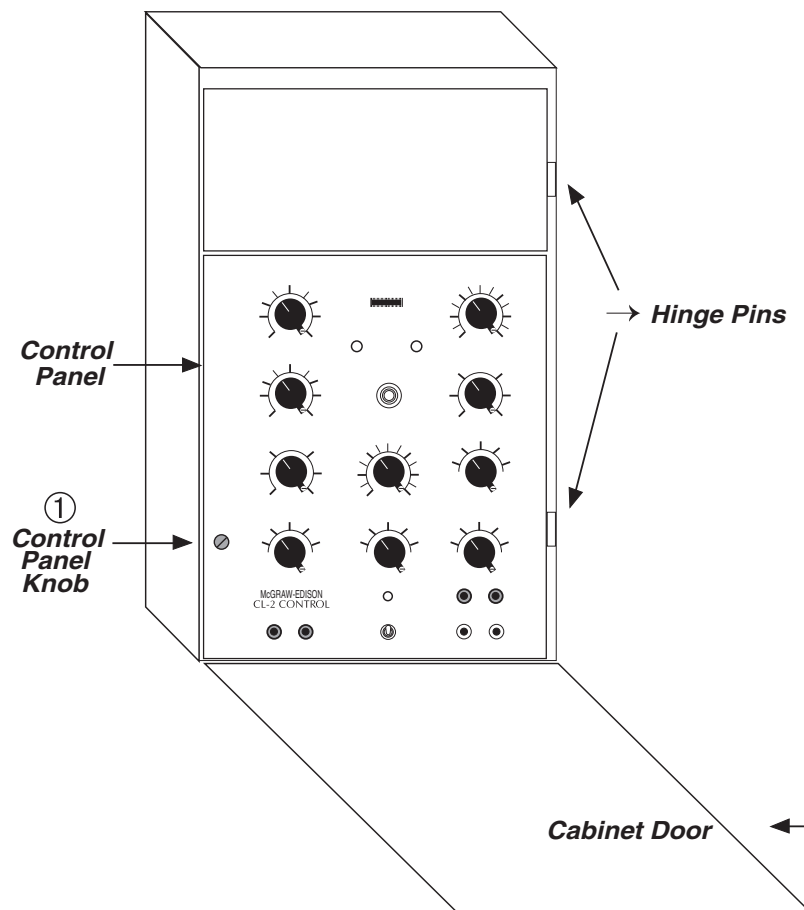

Figure 10 Cooper Control in Cabinet
Refer to Figure 10.
3. Mount the M-2355B Adapter Panel (with the M-2001 Series Digital Tapchanger Control) onto the hinges in the control cabinet (Figure 10), then install the two hinge pins saved from the original control. Leave the panel swung outward so that the back of the panel is accessible.